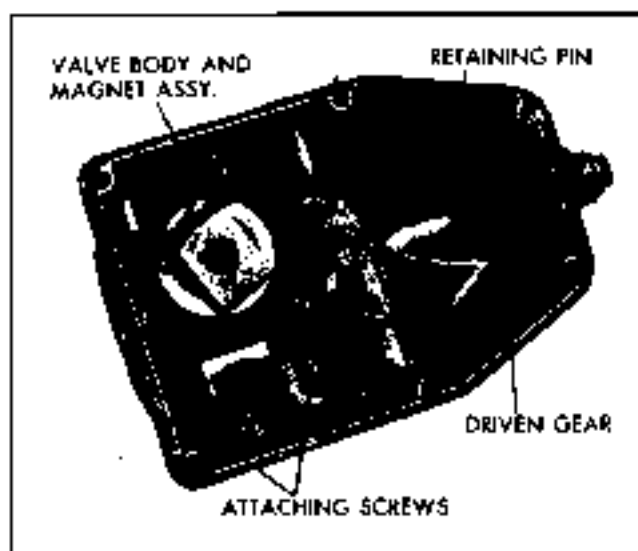

Fig. 15-9 Valve Body and Magnet Assy. - Removal
6. Remove four screws (2 internal, 2 external) holding the valve body and magnet assembly. Remove valve body and magnet assembly from the regulator housing. (Fig. 15-9).